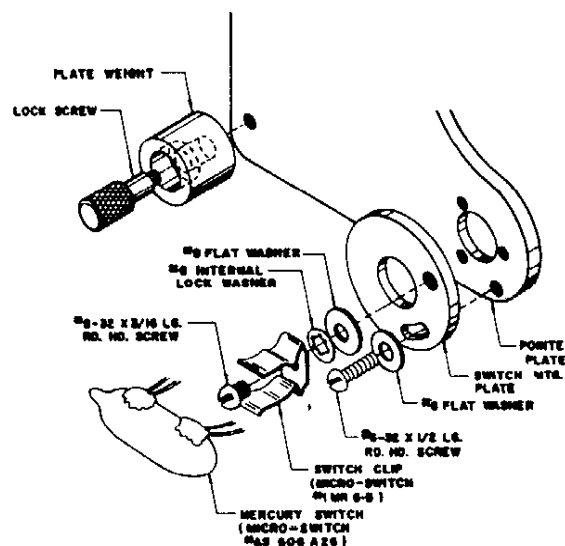

Figure 11. Adjustable Mercury Switch
- 6.3.1 To Install an Adjustable Mercury Switch (See Figure 11)